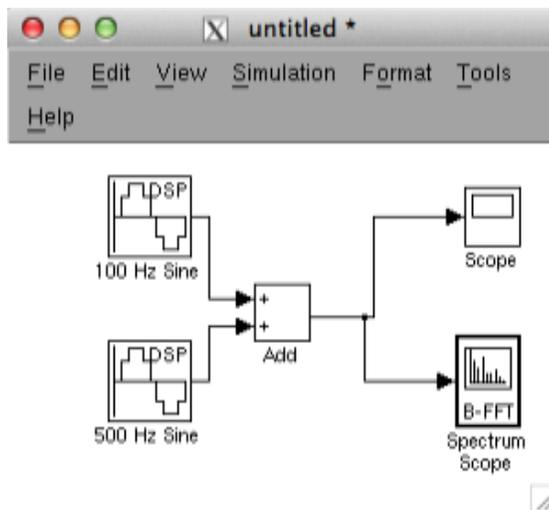

Figure 9. Model with Two Sources
1. Add a second sine wave to the model. Set its frequency to 500Hz and its sample time to 1/10,000 to match the first sine wave. Return to the Library Browser and open the Math Operations sub-library. Select the Add block and add it to the model. Rewire the model so that it appears as shown below in figure 9.